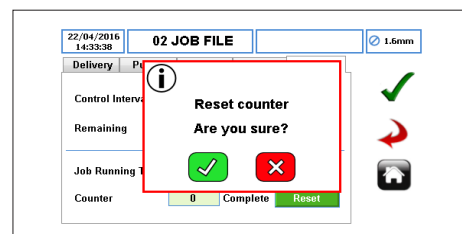

Figure 39 Reset Counter
6. RESET ICON – resets the number of doses/batches which have been completed the Job File. Once the icon has been selected, the user will be prompted as per Figure 39.